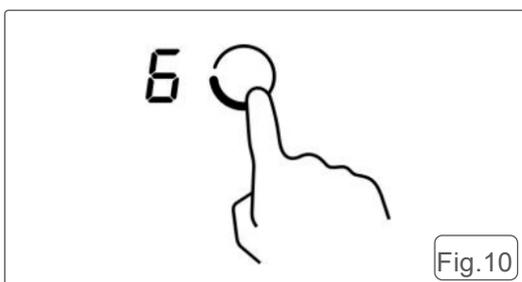

Fig.10
• Touch the heating zone selection control for the active cooking zone. Fig.10.